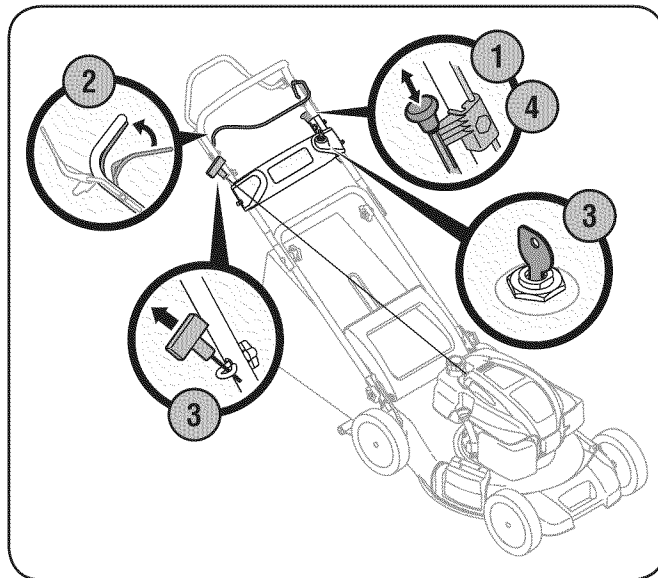

Figure 10-3
1. Pull out the choke knob located on the left side of the upper handle. See Fig. 10-3.
3. **Recoil Start:** Pull the recoil starter lightly until resistance is felt, then pull rapidly to overcome compression, prevent kickback, and start the engine. Repeat if necessary. See Fig. 10-3.
Electric Start: Turn ignition key to the right to start the engine. Release the key after the engine starts. See Fig. 10-3.